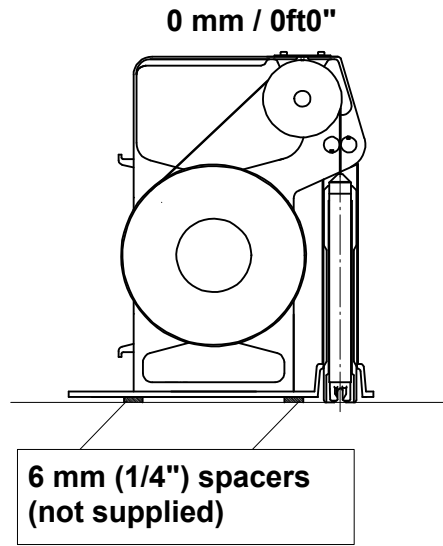

Figure 8-13
- gently lower the tape until the sensor gets in contact with the surface(Figure 8-13);